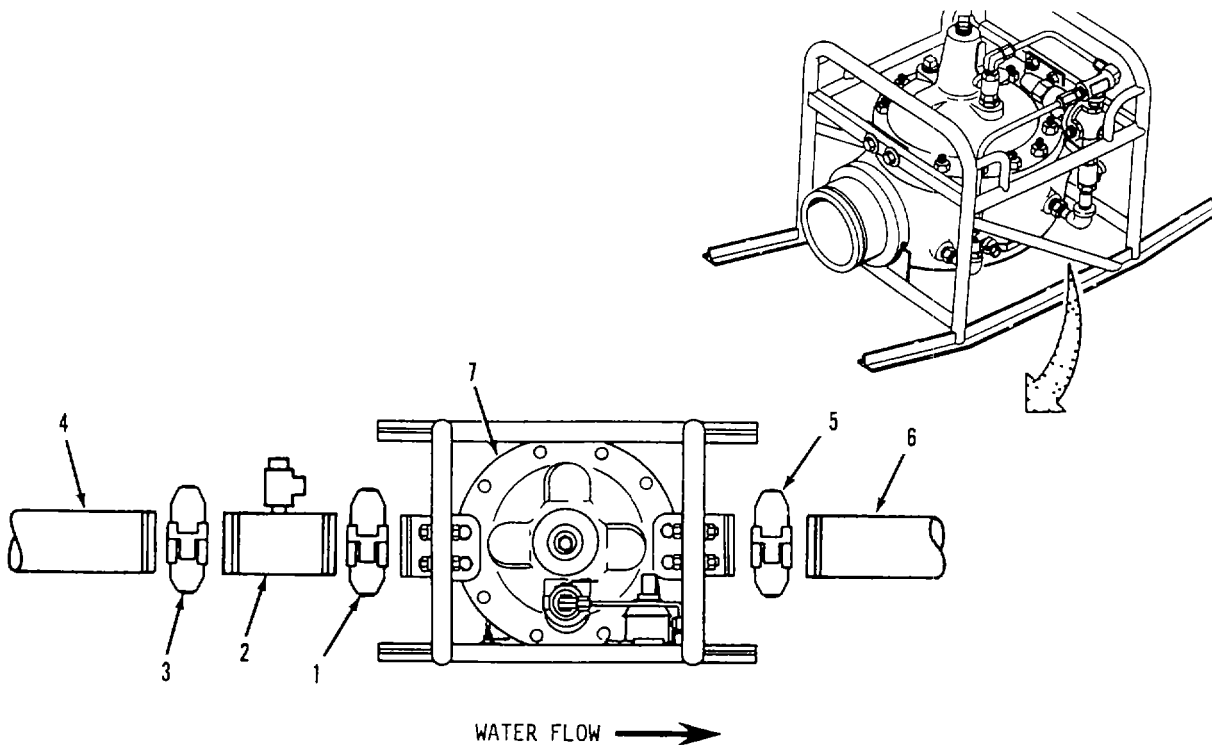

Figure 2-23. Pressure Reducing Valve Installation
- i. Install Pressure Reducing Valve. Refer to figure 2-23 Installation of the pressure reducing valve in the hoseline must be determined by reviewing the site survey and 600 gpm pump performance data (refer to applicable TM). The valve is installed when pressure at a certain point in the hoseline is expected to exceed 225 psi. If the hoseline crosses over a steep hill or ridge, a pressure reducing valve is normally required on the downhill side of the hoseline route.